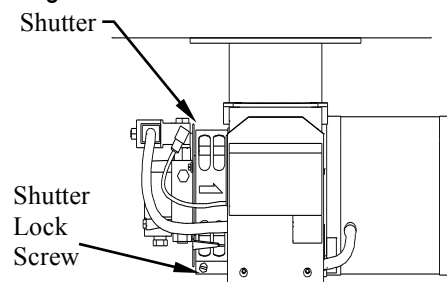

Figure 25 – Shutter Adjustment
- a. Locate shutter as shown in Figure 25 below. Shutter is a thin circular metal plate located on outside of air band. It adjusts independently from air band and is used to fine-tune the amount of intake air.